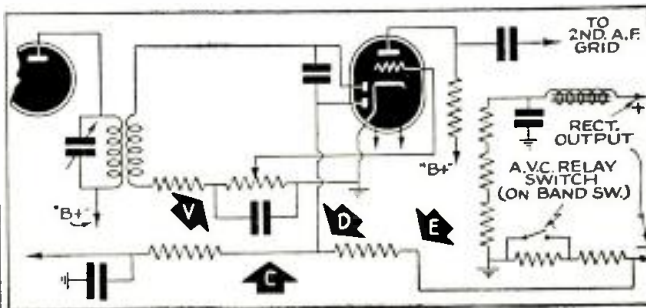

Fig. 4C. Connect vertical amp. terminals from "V" to ground. To interrupt A.V.C., unsolder "C" from "D" and reconnect at "E."
*The A.F.C. circuit should always be shorted out as indicated in Fig. 4C. Most*